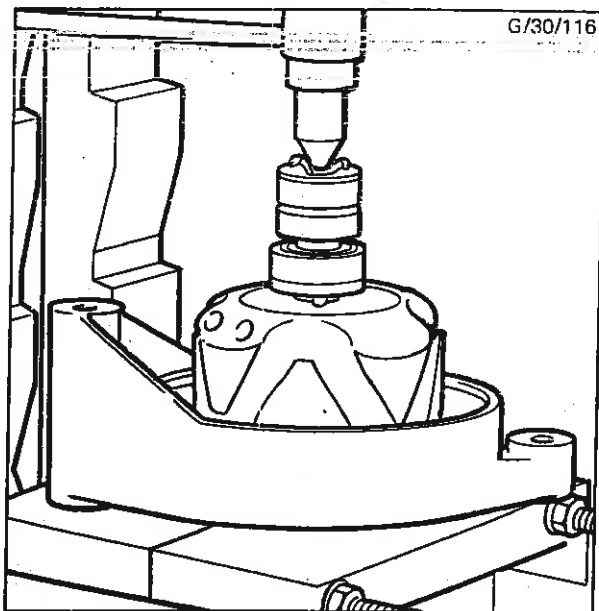

Fig. 77 - Assembling Drive End Shield
4. Place the drive end shield on a bench press so that the bearing housing is firmly supported and the rotor shaft can pass through the support plate - see Fig. 77.